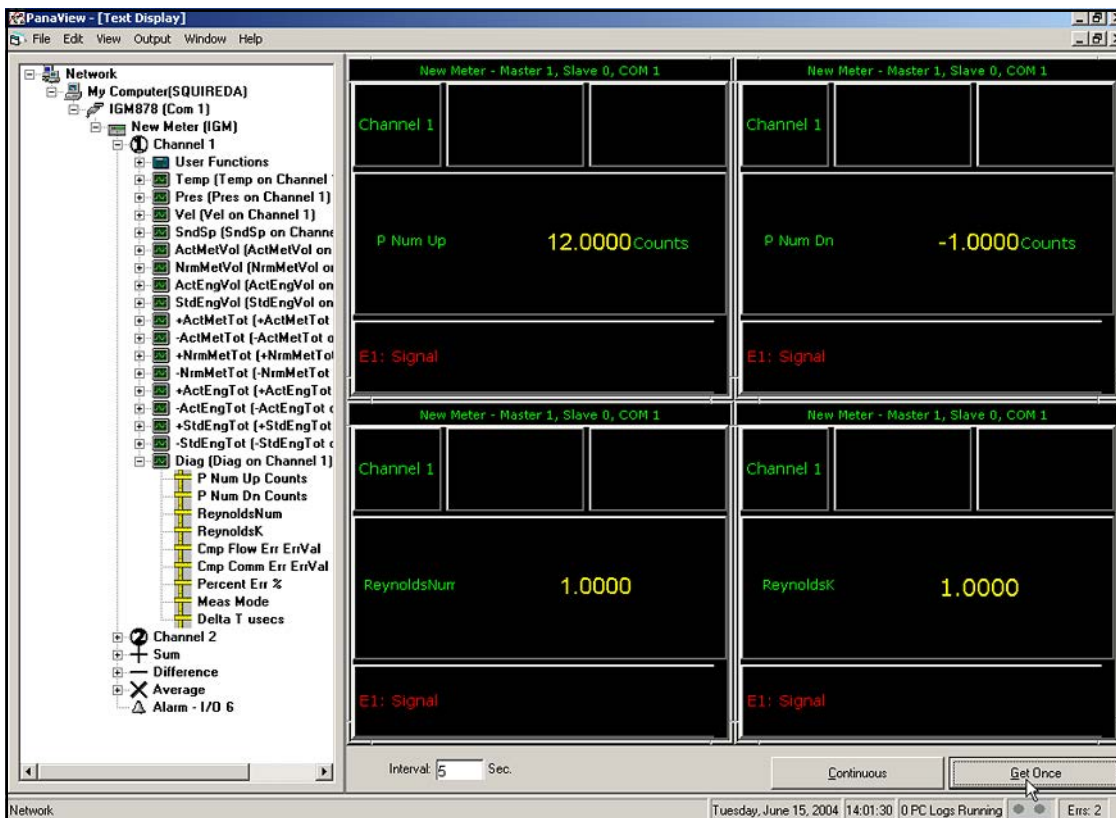
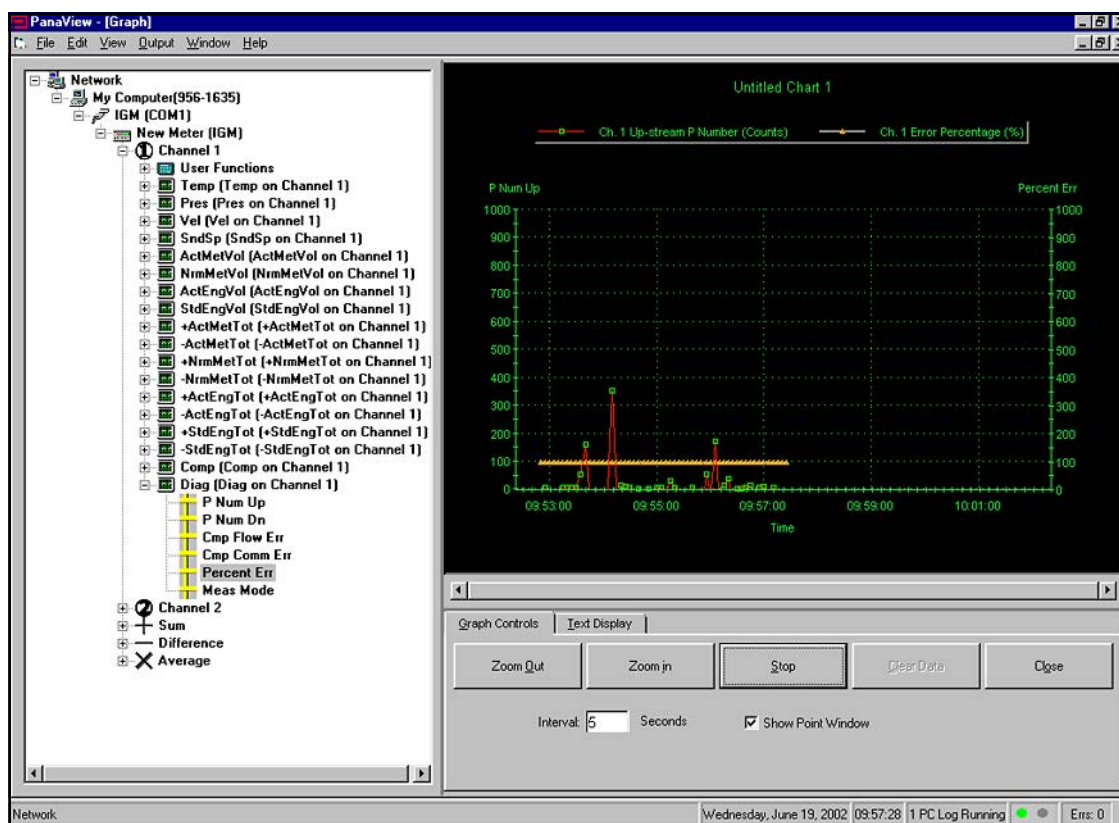

Figure 71: Diagnostic Display in Text Format
Figure 72: Diagnostic Display in Graphical Format
6. Double click on one or more of the six parameters and, depending on the number of parameters chosen and the format selected in Step 3, a display similar to that shown in *Figure 71* below or *Figure 72* on page 87 will appear.
Note: The **Graphing/New** selection will allow only one or two parameters per display (see *Figure 72* on page 87).